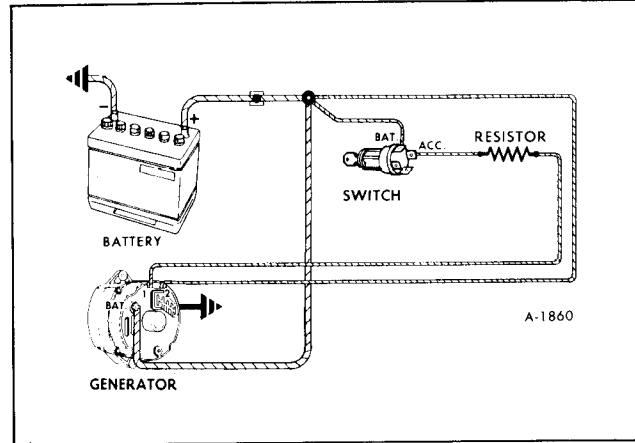

Figure 21—Typical Lead Connections
**NOTE:** A basic wiring diagram showing lead connections is shown in Figure 21.